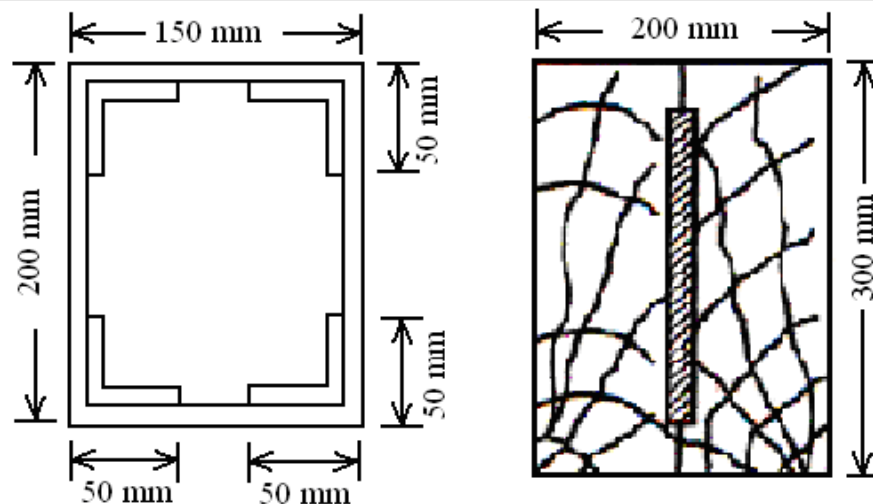

Figure 2:
3. Develop the shear stress distribution diagrams for the sections shown for the following figure 2 when subjected to a transverse S.F. of 200.0 kN. What are the maximum shear stresses? [16]